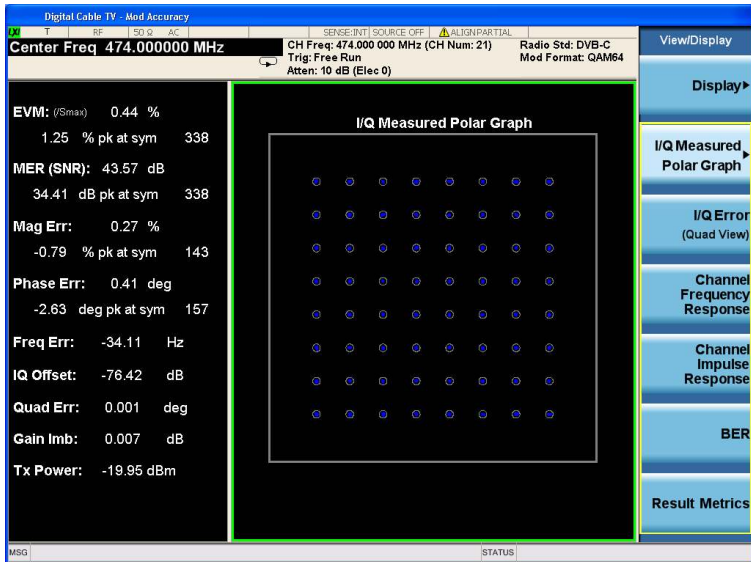

Figure 8.
View the IQ measured polar graph results (Figure 8)	[View/Display] {I/Q Measured Polar Graph}
- I/Q measured polar graph view (Figure 8):